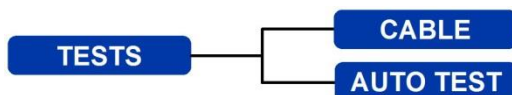

Fig 15 Tests menu map – Ethernet testing (1)
(1) When a SignalTEK NT Remote Unit is directly connected but no active network is detected, the home screen information bar will read 'Ethernet'. When the TESTS icon is selected, the Ethernet tests shown in the menu map at Fig 15 are available.